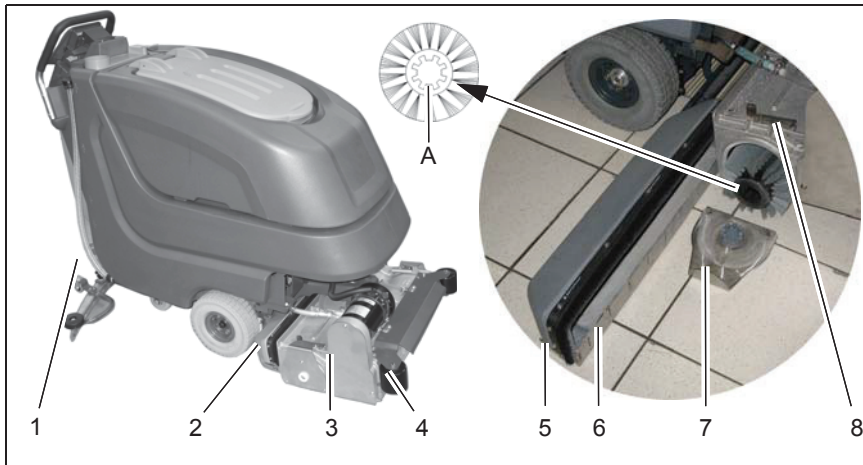

Fig.11
Clean dirt hopper (Fig. 11/2) at daily intervals or as required.
Remove dirt hopper from the right machine side (seen in direction of travel). Use quick-release (Fig. 11/5) to loosen feed inlet (Fig. 11/6) and clean dirt hopper.
1. Lift-out cylindrical broom head (Fig. 11/3) by pedal (Fig. 11/1).
2. Release brush seating (Fig. 11/7) by locking lever (Fig. 11/8).
Check deflector rollers (Fig. 11/4) at weekly intervals and replace if required.